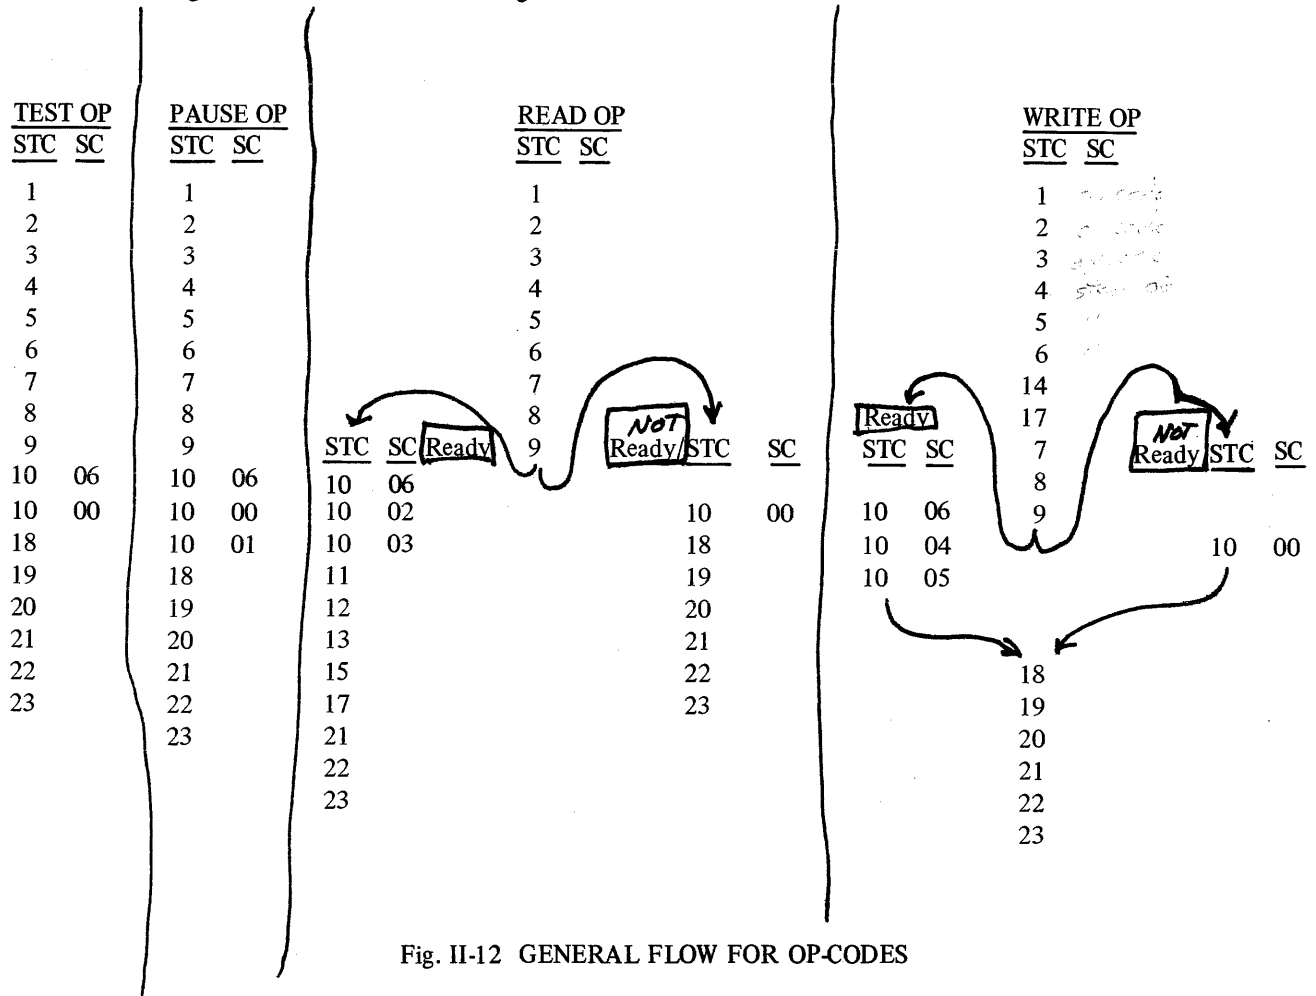

Fig. II-12 GENERAL FLOW FOR OP-CODES
Each of the four OP-Codes (Read, Write, Test and Pause) when initiated within the Control logic will cause the Status Counter (STC) and the Sequence Counter (SC) to follow a definite sequence. The STC and SC's which are entered as the result of receiving the OP-Codes are shown in Figure II-12.